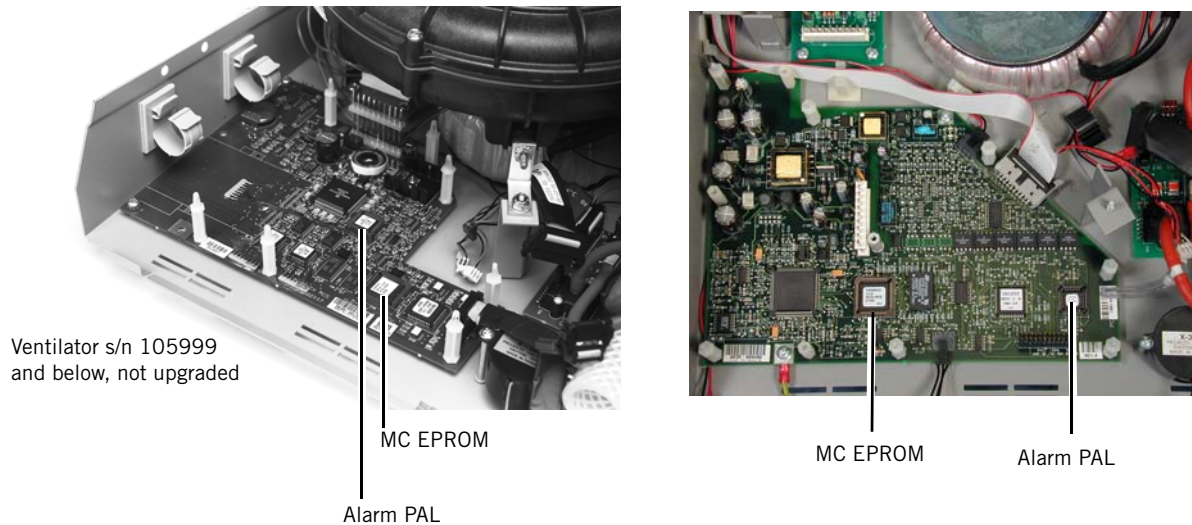

Figure 8-3: MC Board EPROM and Alarm PAL Locations
8. Use the extraction tool to remove the existing EPROM and alarm PAL, if installed, and store in an antistatic container if required (Figure 8-3 shows the location of the EPROM and alarm PAL on the board).